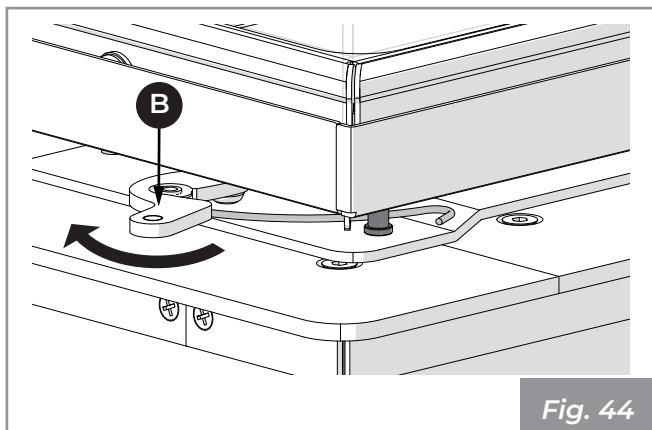

Fig. 44
5) Push lever (B) and return it to the locked position (Fig. 44).